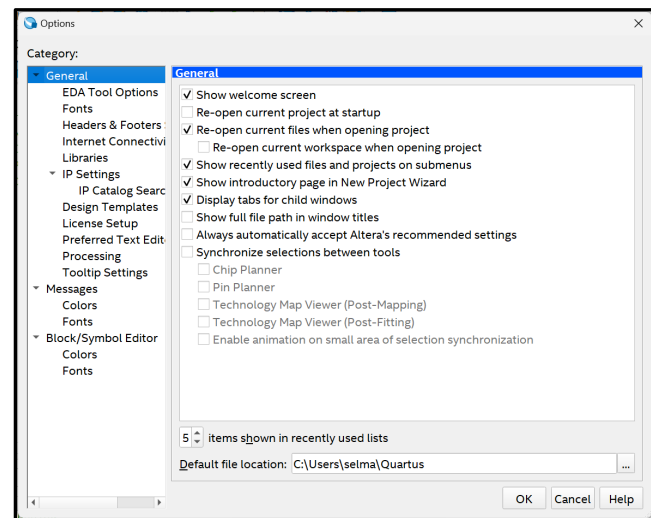

Figure 18: Changing the default folder (directory).
- 4) As shown in Figure 18, above the “OK” button near the bottom of the window, you will see an option for “Default File location:”. Click on the ellipsis, then find the directory that you would like to use as your default when creating a new project using the Project Wizard and click “Select Folder”.